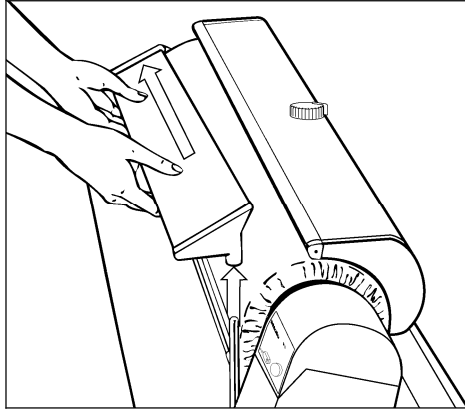

Figure 040-1: Feed Board Removal
2. Remove the feed board (Figure 040-1).